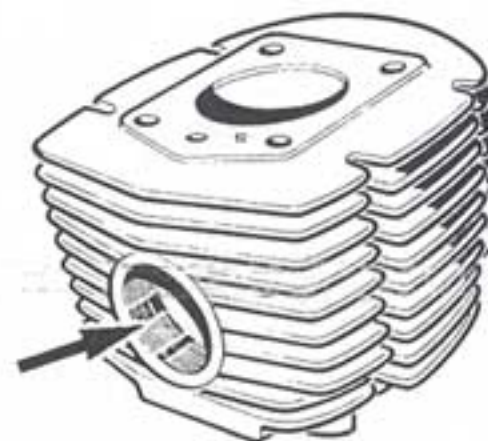

Fig. 1
- Scrape the carbon deposits from the exhaust port (fig. 1).
REMOVING THE EXHAUST PIPE (Blunderbuss type - Fig. 1)